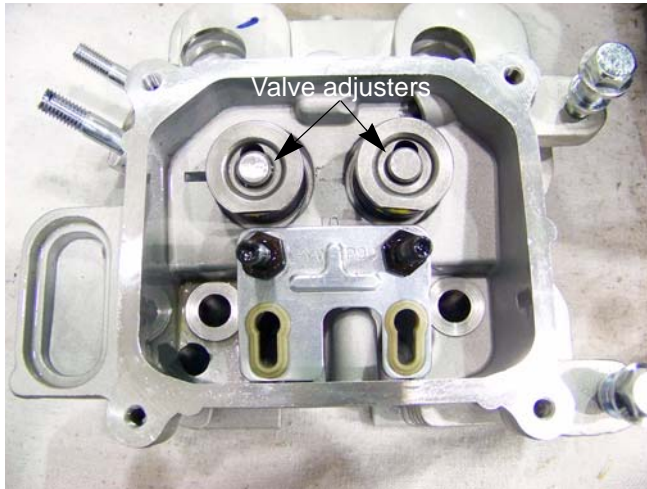

Figure 9.9
3. Remove the valve adjusters. See Figure 9.9.